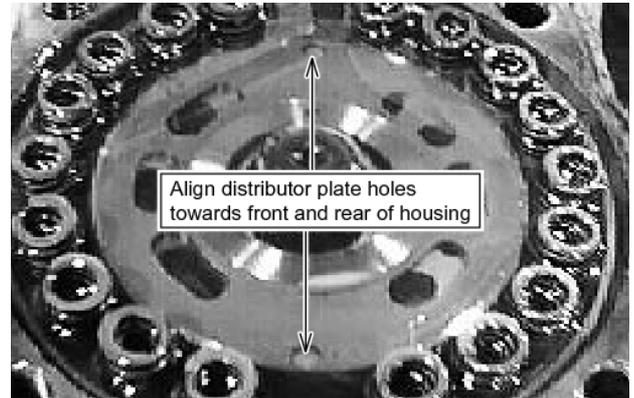

Fig. 8-16
11. Align the holes of the distributor plate in the swing motor until they are located toward the front and back of the swing motor housing. See Fig. 8-16.